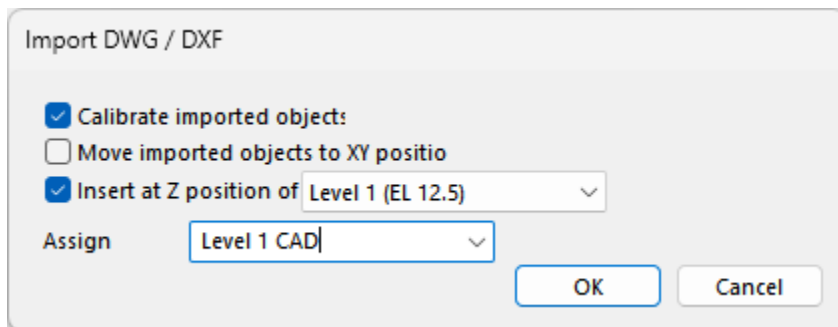

FIGURE 3-2
- Using your keyboard enter **Level 1 CAD**, after this the *Import DWG/DXF* window will look as shown in **FIGURE 3-2**.